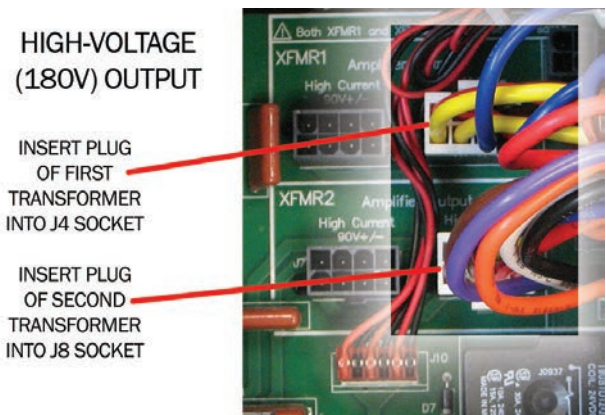

Figure 5.11 – J4 and J8 Plug Locations for High-Voltage Output
3. For High Voltage (180V) Output (see **Figure 5.11**).